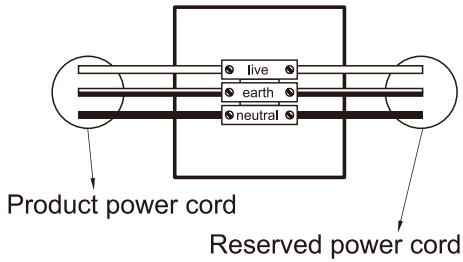

Fig.4
- 2.1 Disconnect power, connect the wire to the terminal block. See (Fig.4)